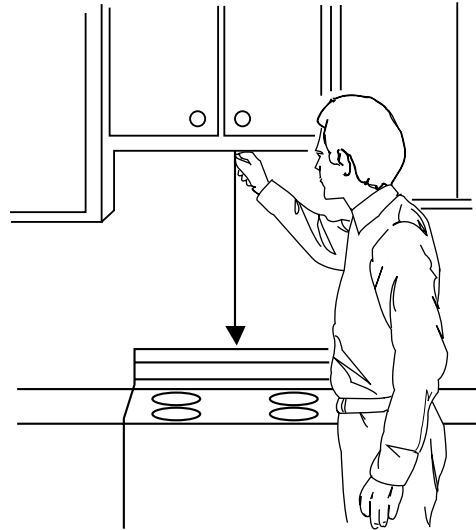

Figure 22
1. Using a plumb line and (metal) measuring tape, find and mark the vertical center line on the back wall, as in Figure 22.